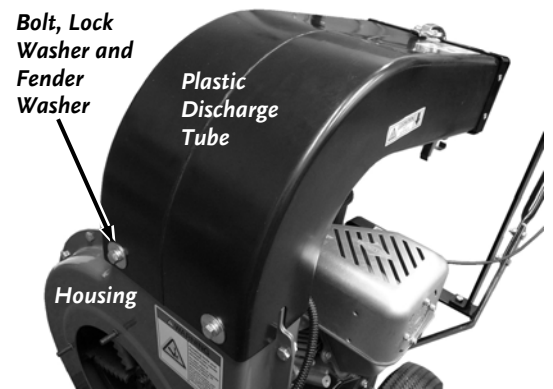

Figure 12
13. Place the Plastic Discharge Tube on top of the Housing (**Figure 12**). Be sure the discharge opening is directed to the rear of the machine and between the Handles. Secure the Tube to the front of the Housing with two 5/16"-18 x 5/8" Bolts, Lock Washers and Fender Washers.